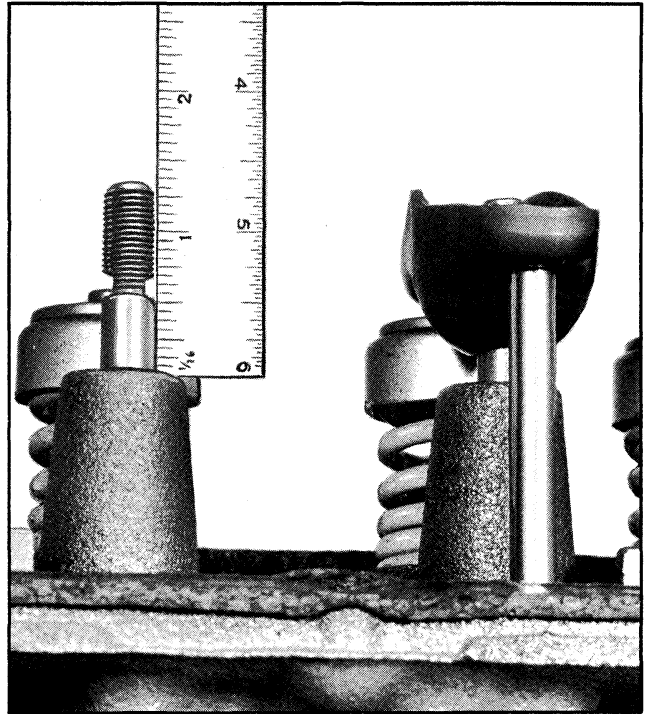

Fig. 6-29 Slots for Removing Rocker Arm Stud
3. File two slots $\frac{3}{32}$ " to $\frac{1}{8}$ " deep on opposite sides of rocker arm stud (Fig. 6-29). Bottom of slots should be $\frac{1}{2}$ " from top of stud hole (Fig. 6-29).